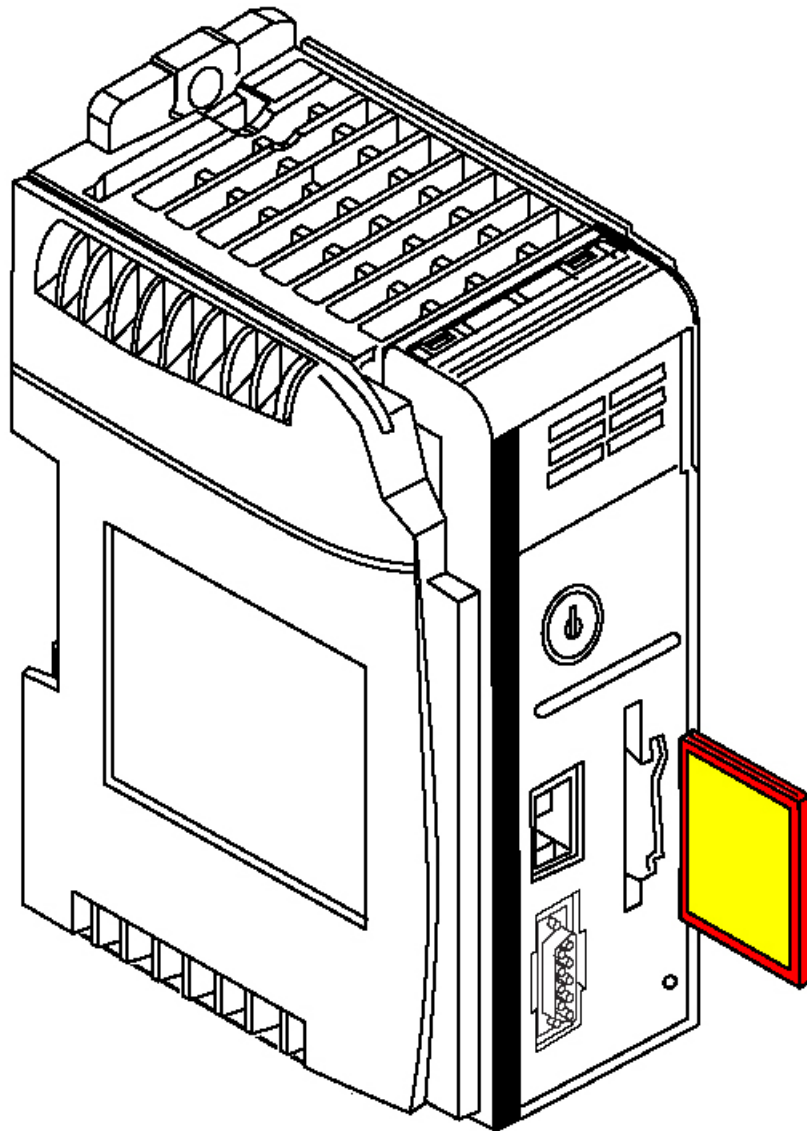

Fig 1
2. Insert the configuration compact flash card containing the new version of the software labeled **PLC Configure 744.00130.00** into the PLC CPU (Fig 1).